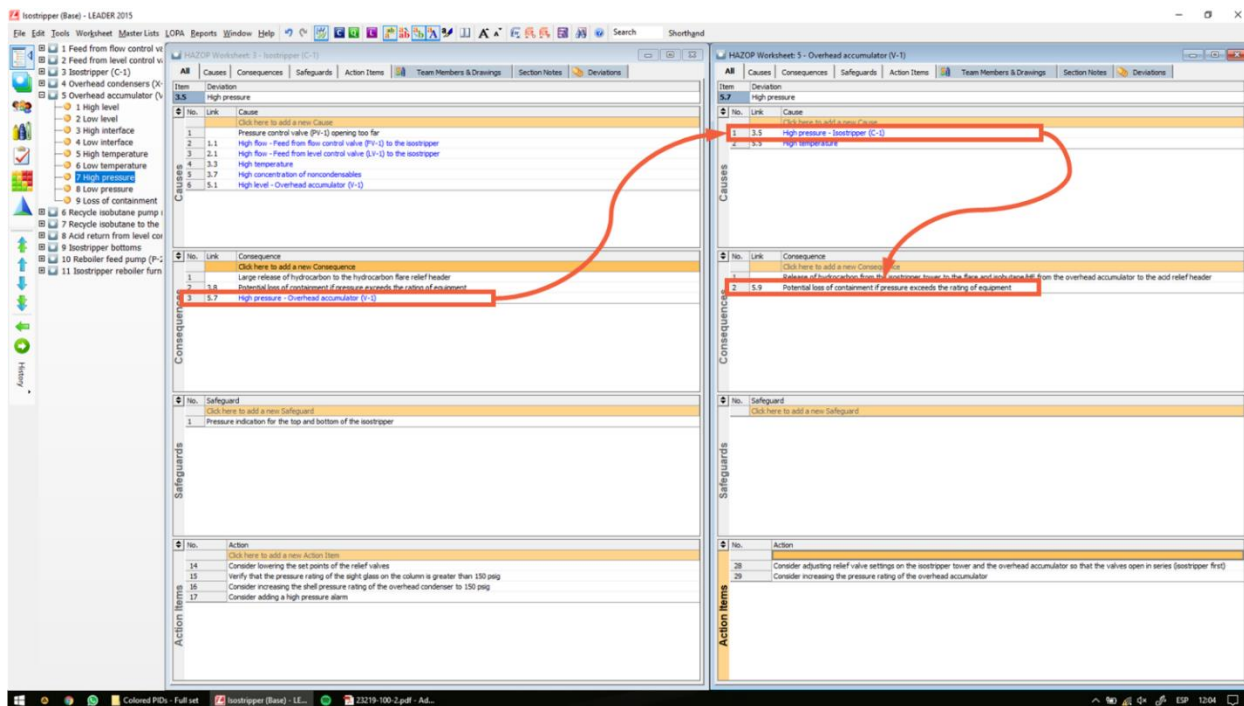

Figure 2. Multi-window use example
*Example: In Figure 2, during the analysis of High pressure of Node 3, the team says: "High pressure in this node leads to possible rupture in the next node, Node 5". So, with that sentence the Scribe understands the scenario path even though it was not perfectly worded. The scenario path is:*